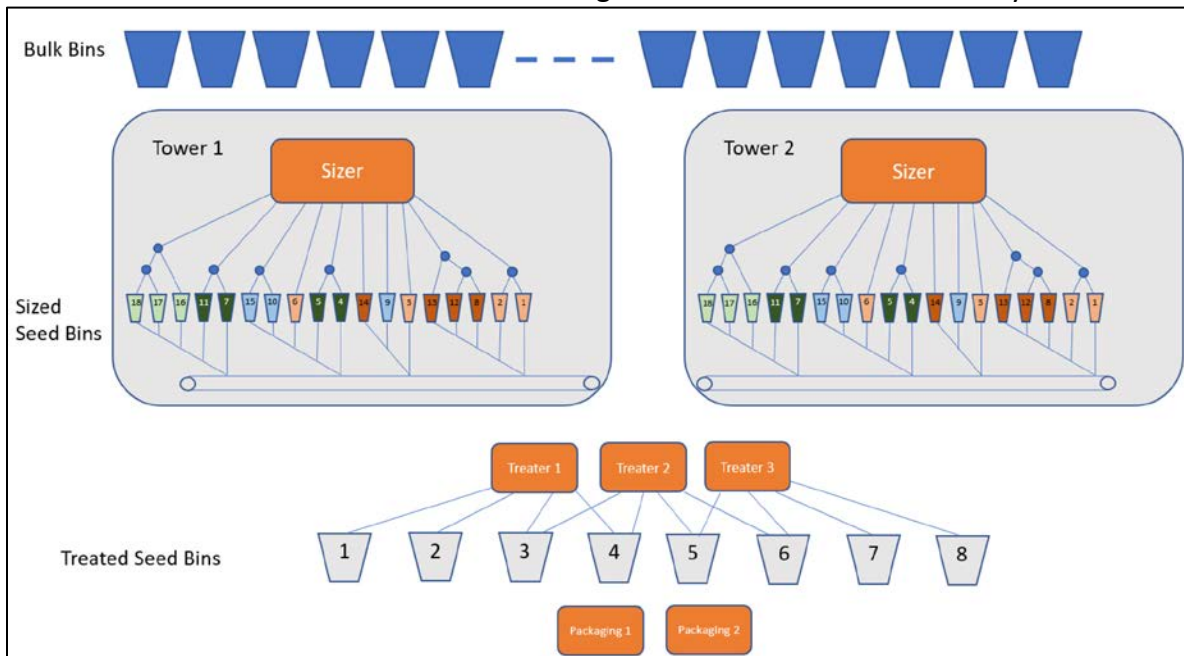

Figure 1 - Tower Schematic
In this section, we present the process flow details of the manufacturing site, an abstraction of which is presented in Figure 1 below (also in the Tower Schematic PDF). Additional data can be found in the Simio Problem Competition Data Excel file. This file has 8 tabs. The 'Miscellaneous' tab contains information about general information about the system.
Towers: The batch of seed variety can go into two towers (Figure 1), each housing a sizer and a set of sized seed bins. The towers can both run the same variety of seed, but they typically each run a different variety. There is a minimum weight a purchase order must be greater than to split the batch between both towers. Once the seed variety enters a given tower, it must go through the sizer and the sized seed bins before it can be treated in the treaters due to piping and conveyor restrictions.
Sizer: Each tower has one sizer where the corn seed kernels are sized and segregated into four primary seed sizes S1-S4, each indicated by a different bin color in Figure 1. At a given time, the sizer can process, at most, one variety of corn seed. This operation is a continuous flow operation, but it could be modeled discretely, continuously, or combined. The seed kernels from bulk storage have the following size composition: S1 20%, S2 30%, S3, 30%, S4 20%. Seeds flow out of the Sizer at the same rate they enter. However, if the system backs up, the Sizer has a maximum weight of sorted seeds it can hold, and each seed size has a maximum weight.
- c. The dark circles (piping joints) in Figure 1 represent a two-way valve. Only one outlet at each valve can be operating at any point in time.